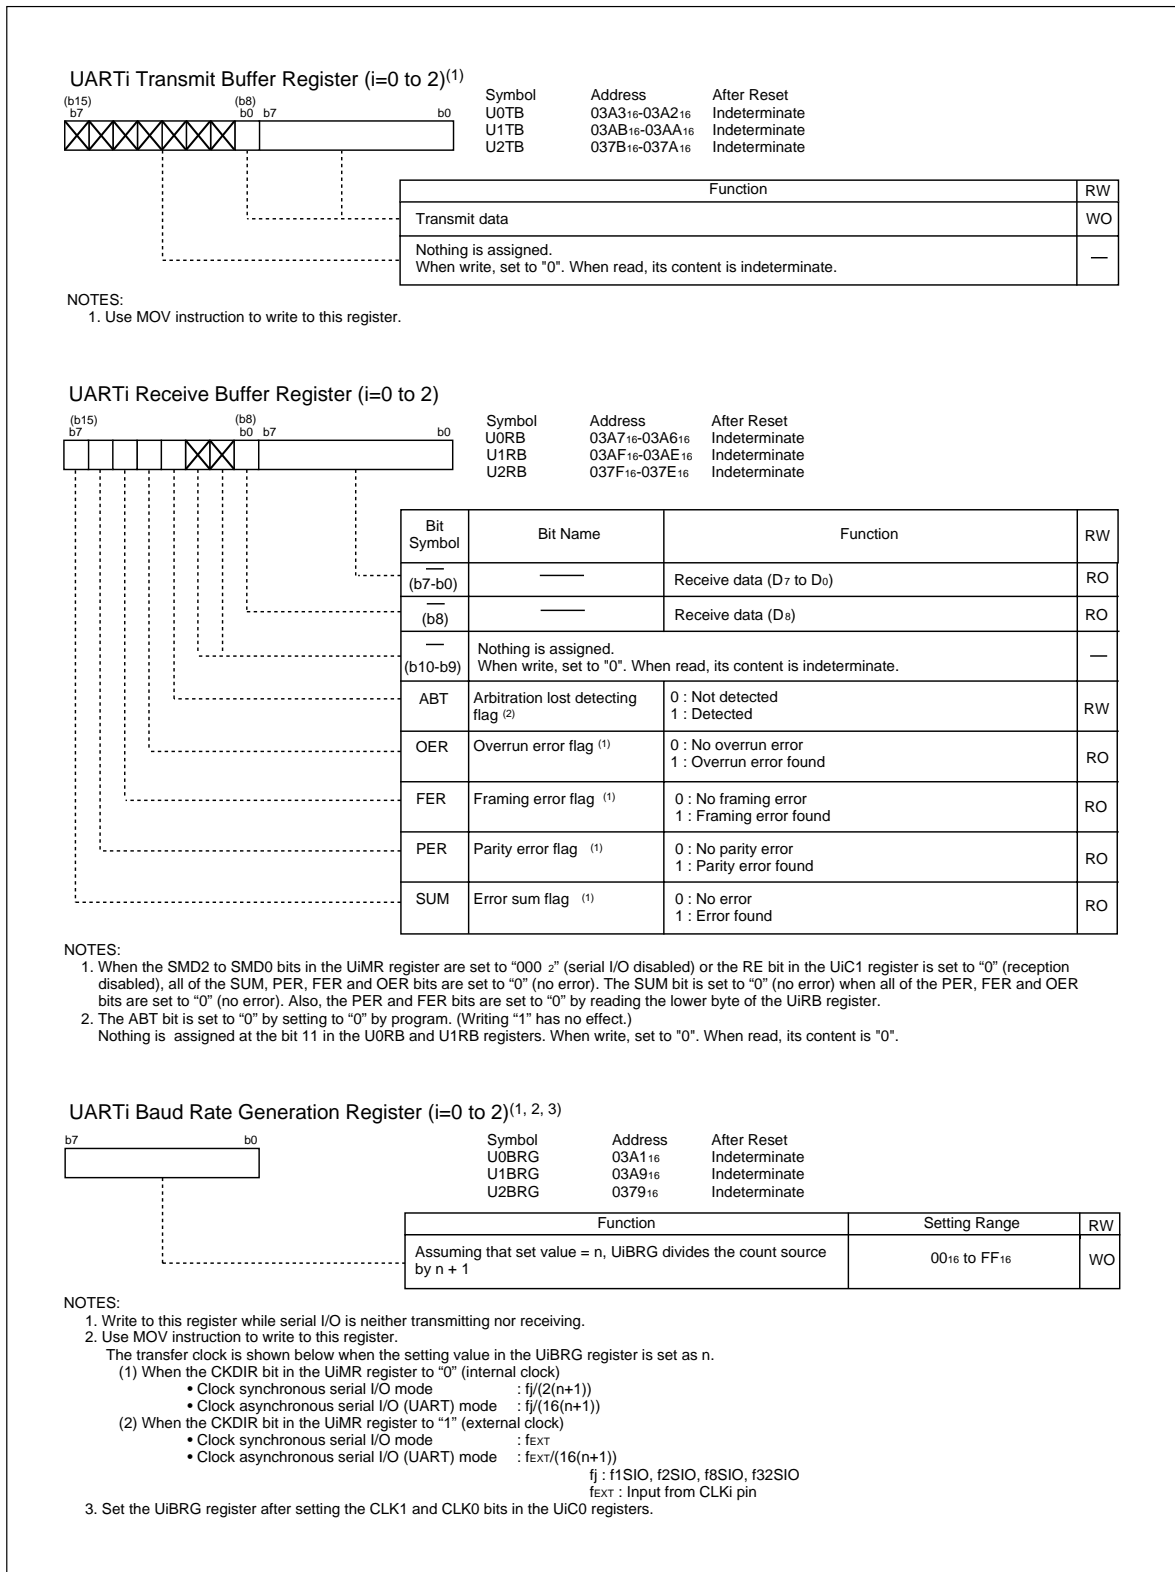

Figure 14.4 U0TB to U2TB, U0RB to U2RB, U0BRG to U2BRG Registers
**Figures 14.4** to **14.9** show the UARTi-related registers.